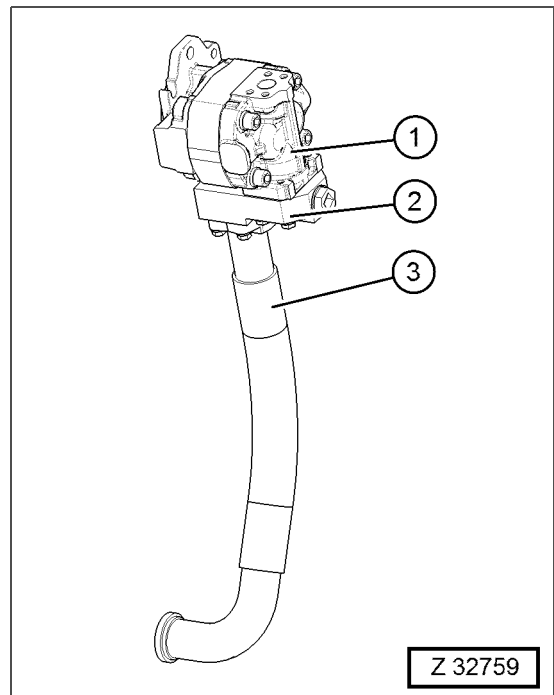

Fig. 3-135
1. Assemble the intermediate flange (Fig. 3-135, Pos. 2) at the PTO gear oil pump (Fig. 3-135, Pos. 1).
2. Connect the suction oil hose (Fig. 3-135, Pos. 3) at the intermediate flange.